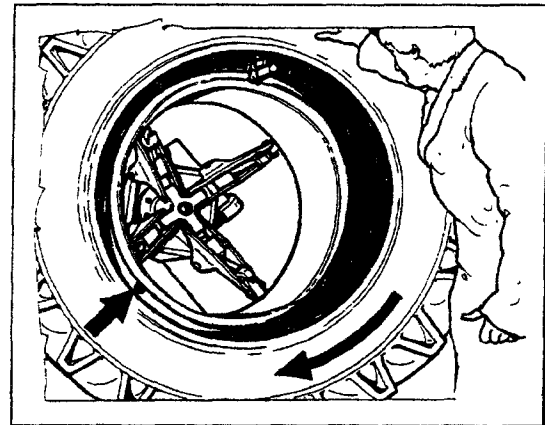

Fig.50
3. Place the hook tool as shown in Fig.50. The edge of the hook should be about 2-3 cm (1") away radially from the rim edge and 2-3 cm (1") to the outside.